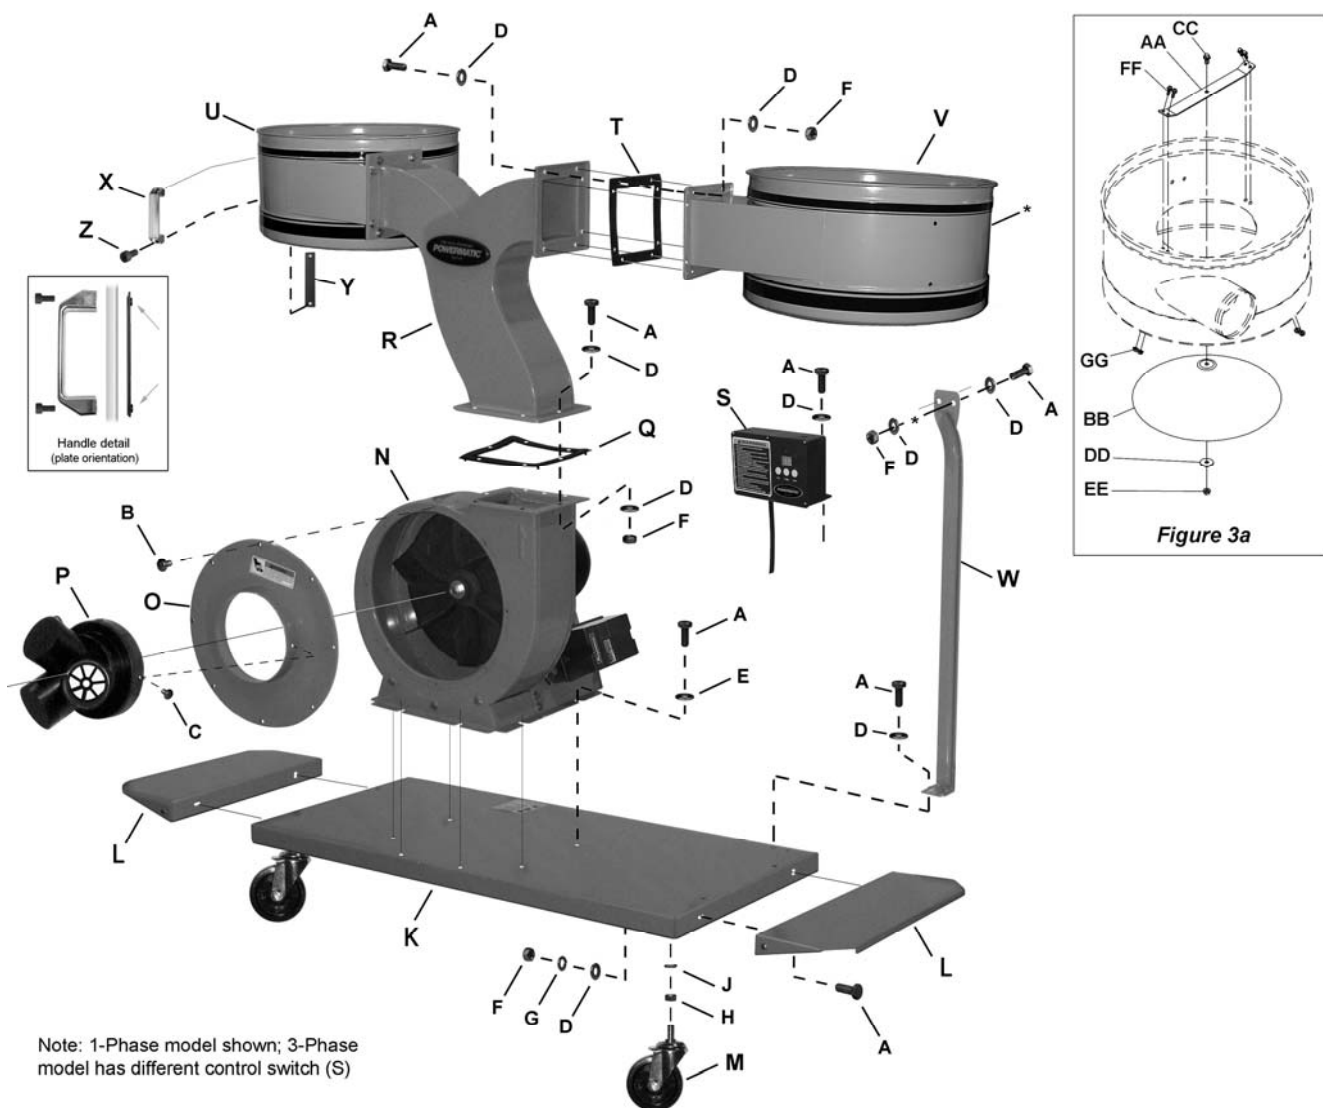

Figure 3: Assembly and part identification
All instructions on this page refer to Figure 3.
1. Place the *lower gasket* (Q) on the *impeller housing* (N). Line up the rubber pegs on the gasket (face down) with the holes in the housing.
2. Place the *connector tube* (R) on the *impeller housing* (N), making sure that the holes of the mating flanges are aligned.
**Note:** Refer to Figure 3 to make sure that the connector tube is facing the proper direction.
3. Insert an M8x20 *hex cap screw* (A), through the M8 *washer* (D) and flanges of the *connector tube* (R) and *impeller housing* (N).
4. Place another *washer* (D) and a *hex nut* (F) on the protruding end of the *screw* (A) and hand-tighten only.
5. Mount the *control box* (S) to the two holes at the front of the *connector tube* flange (R).
1. Remove the *plate* (Y) from the *handle* (X) by loosening the two *socket head cap screws* (Z) with a 6mm hex wrench.
2. Install *handle* (X) to the holes in the *collector housing* (U) by inserting the socket head cap screws through the handle, the collector housing, and into the plate on the opposite side. Tighten the screws.
**Note:** Make sure the *plate* (Y) is oriented properly, as shown in the Detail in Figure 3: The protrusions on the plate should face away from the handle.